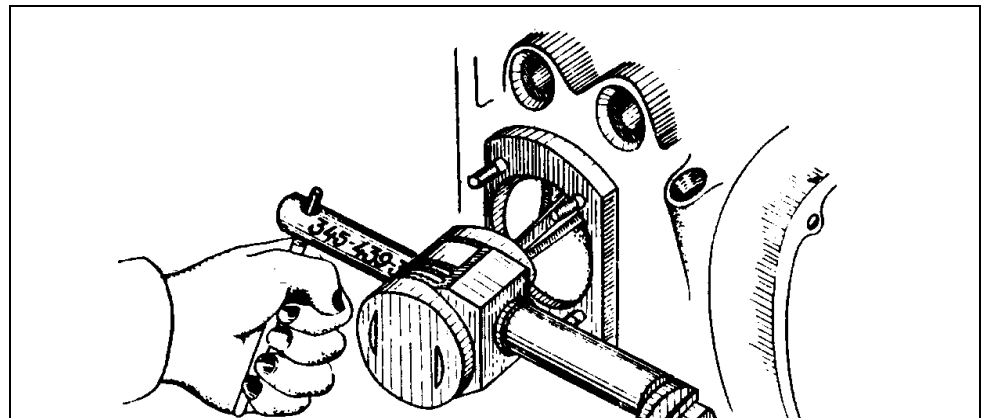

Fig. 4.4-1. Pressing-out the Piston Pin
- fit the piston pin remover tool 345-439-3 and press out the pin (Fig. 4.4-1)